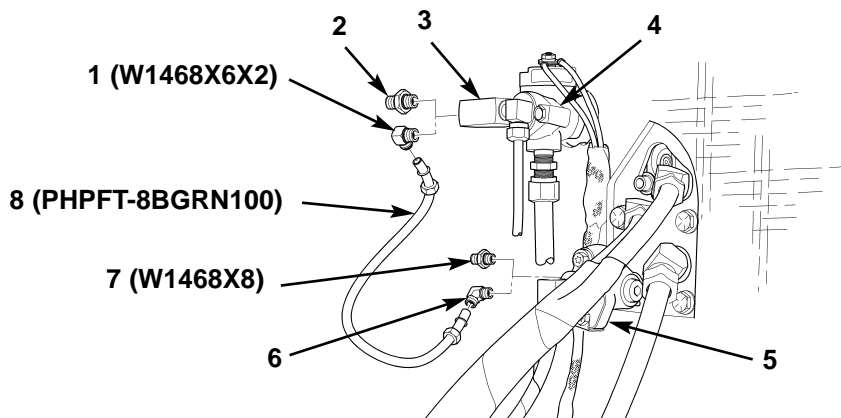

Figure 61. Replacing Tube Between Double Check and Quick Release Valves.
48. Remove tube (figure 61, item 8) from elbows (figure 61, items 1 and 6), elbow (figure 61, item 6) from double check valve (figure 61, item 5), and elbow (figure 61, item 1) from tee (figure 61, item 3) at double check valve/stoplight switch (figure 61, item 4). Discard tube (figure 61, item 8).
49. Install new adapter (figure 61, item 7) on double check valve (figure 61, item 5), and install new adapter (figure 61, item 2) on tee (figure 61, item 3) at double check valve/stoplight switch (figure 61, item 4).
50. Cut and install new piece of 1/2 in. (13 mm) green tubing (figure 61, item 8) on adapters (figure 61, items 2 and 7).